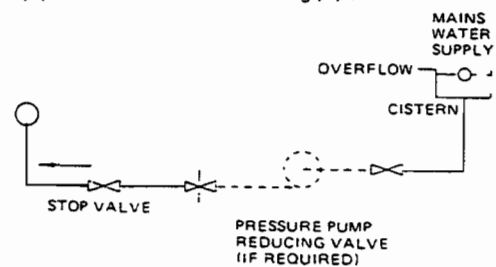

FIG. 6. FULLY PUMPED SEALED SYSTEM
- ii) where access to a make-up vessel would be difficult, by using the mains top up method or a remote automatic pressurisation and make up unit as illustrated in FIG. 6 METHODS 1 and 2.
The system shall be fitted with a filling point at low level which incorporates a stop valve to BS.1010 and a double check valve (approved by the National Water Council) to be fitted in this order from the system mains. Refer to FIG. 6 METHOD 1.